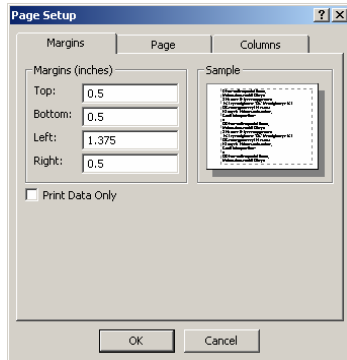

Figure 12 – Pipe/W-Shape Project Book Margins Setup
2. Select the **Margins** tab and set the margins as shown in Figure 12.